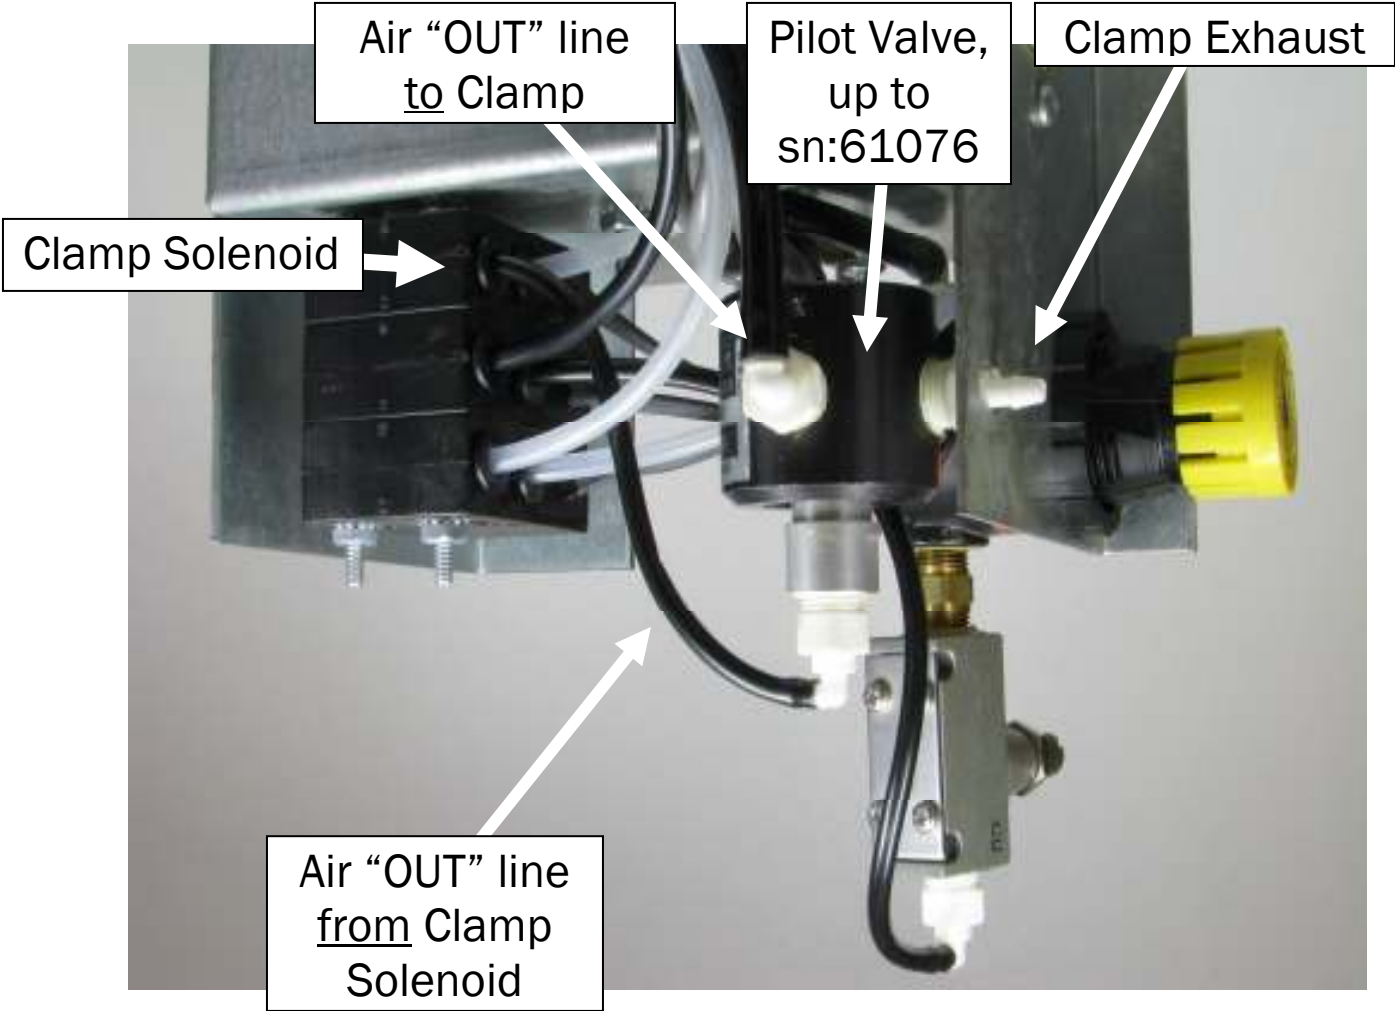

Figure 6
4. If both clamp actions are smooth and quick the Clamp Cylinder is operating properly. Continue troubleshooting the Clamp Cylinder Air Line, the Pilot Valve (on Mead solenoid machines) and the Clamp Solenoid. **See fig. 6.**